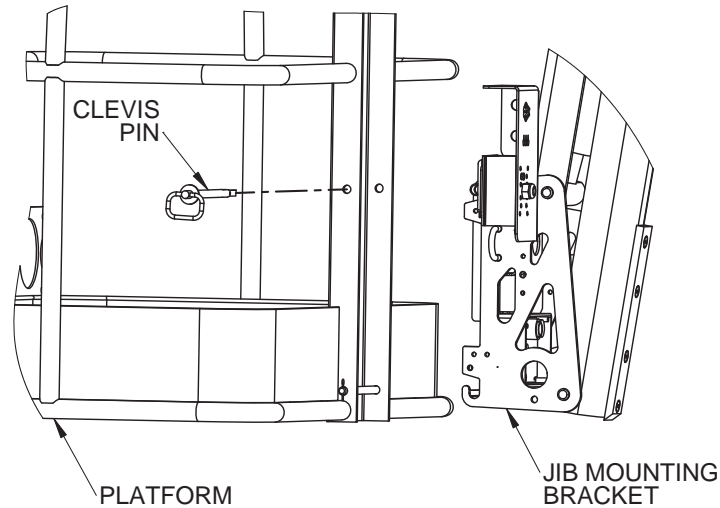

Figure 8-3. Platform Removal
- Remove the clevis pin holding the platform to the boom lift. See Figure 8-3
- Remove the platform from the boom by lifting the cage up and away from the mounting bracket on the boom nose. See Figure 8-3.